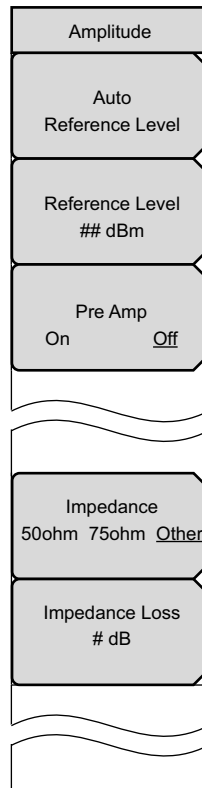

Figure 2-17. Amplitude Menu
1. Press the **Amplitude** main menu key to display the Amplitude menu (Figure 2-17).